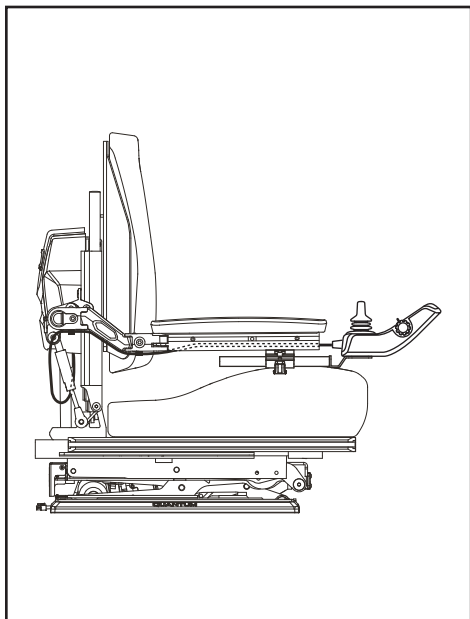

Figure 7. Controller Harness Routing on a TRU-Balance® 3
4. Install the controller and route the harness to the back of the power base. **See figure 7 or 8.**